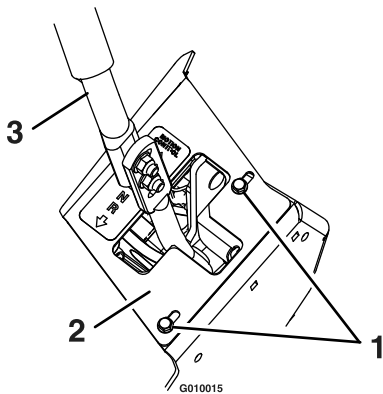

Figure 74
1. Loosen the screws on a cover plate (see Figure 74).